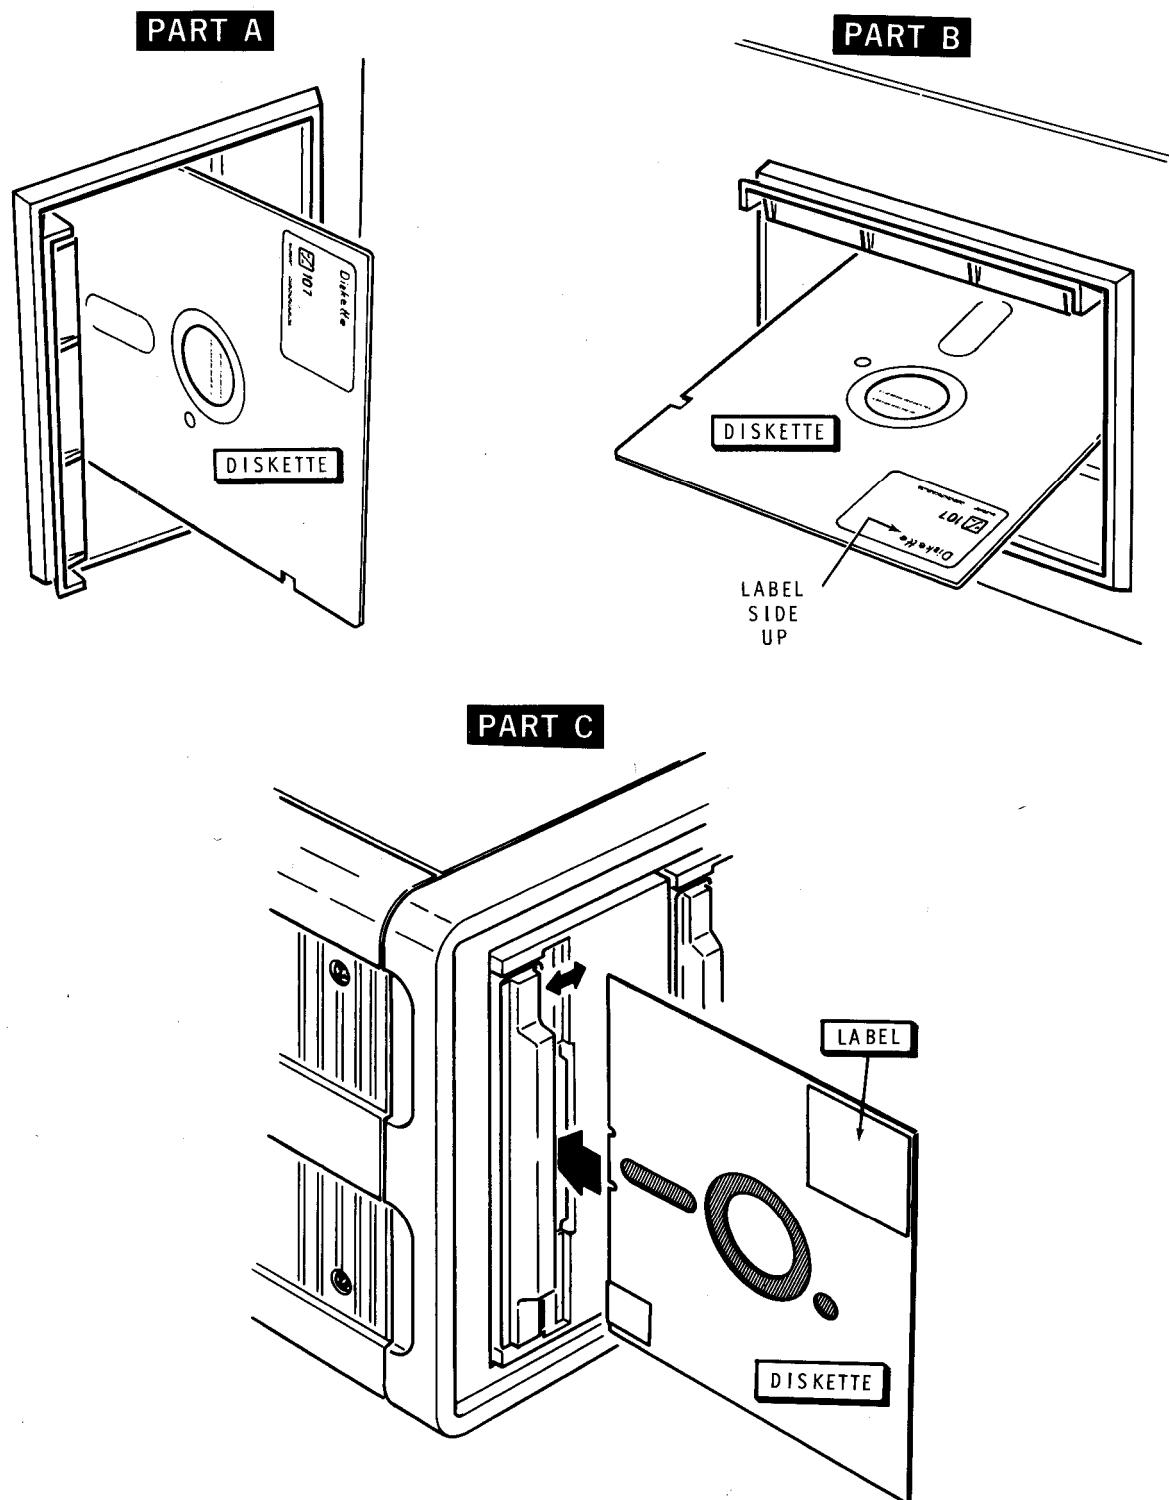

Figure 1-2
- ( ) 3. Insert the distribution diskette into the drive that has been hardware configured as primary boot drive *Ø*; See Figure 1-2. Close the door of the drive unit after you have inserted the diskette.